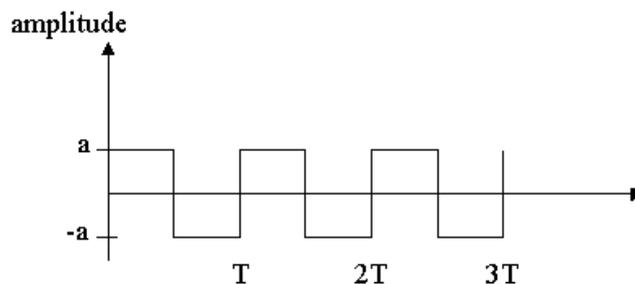

Figure 3.3.2: A Square Wave of Amplitude a and Period T
4. Integration of a square wave. During the laboratory, you will construct a circuit that integrates a waveform – the output signal will be the integral of the input signal with respect to time. Using a square wave input such as that shown in Figure 3.3.2, you will be able to test the integrator, and learn its limitations. The performance of an integrator is assessed by comparing the generated output to the theoretical output. Copy the square wave signal from Figure 3.3.2, then calculate and draw the theoretical integrated signal on a set of axes beneath the square wave.